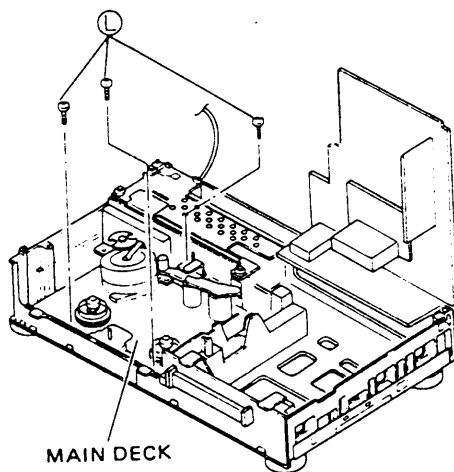

Fig. 1-1-11
2. Refer to Fig. 1-1-11 and take out 3 screws (L) from the main-deck assembly.